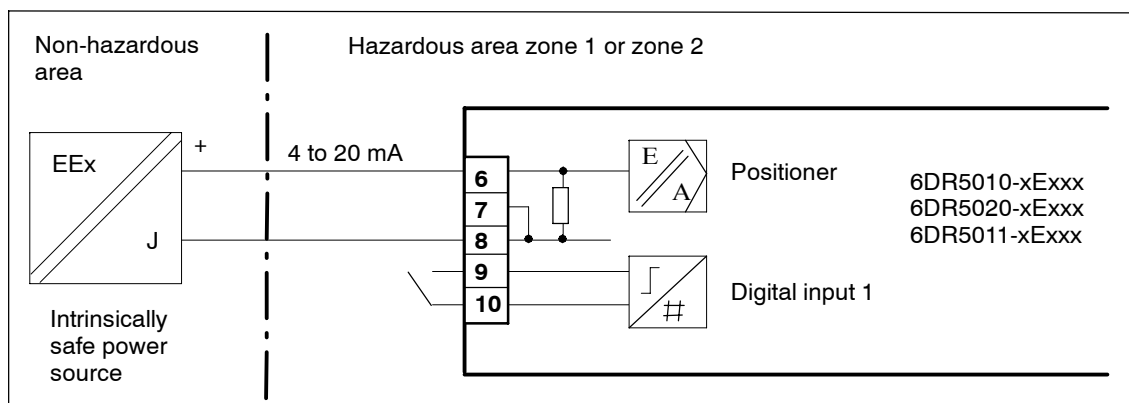

Figure 3-20 Two-wire connection, EEx i
4. Connect a suitable current or voltage source (see figure 3-13, page 59 and figure 3-20, page 63).
5. The positioner is now in the operating mode "**P-manual operation**". The current potentiometer voltage (P) is displayed in percent in the top line of the display, e.g.: "**P12.3**", and "**NOINI**" flashes in the bottom line: